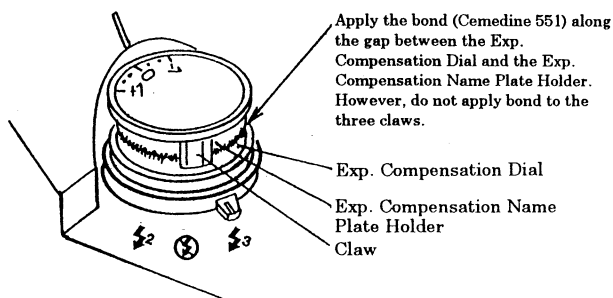

Fig. 7
- 7) Apply the bond (Cemedine 551) to the whole periphery along the gap between the Exp. Compensation Dial and the Exp. Compensation Name Plate Holder. (See Fig. 7) However, do not apply bond to the three claws of the Exp. Compensation Holder.